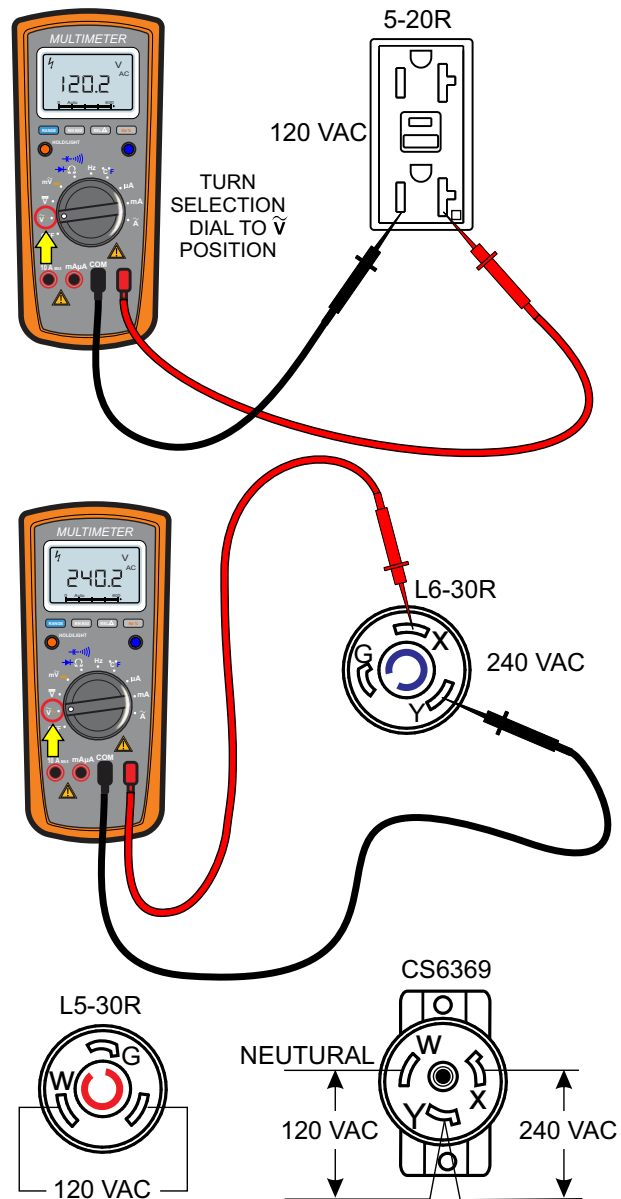

Figure 73. Auxiliary Receptacles Voltage Measurement
- If desired, a multimeter can be used to measure the AC voltage output at the auxiliary receptacles as shown in Figure 73. Make sure to place **all** auxiliary circuit breakers in the **ON** position before taking the voltage measurement.